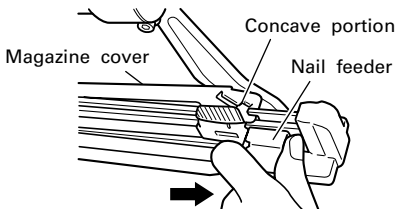

Fig. 2
- (1) Pull the nail feeder until the concave portion of the magazine cover clicks. (See Fig. 2)